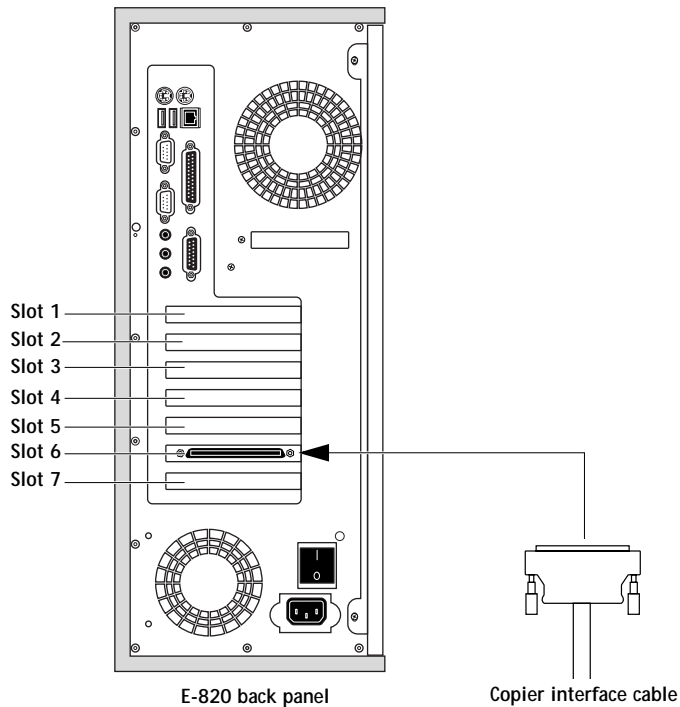

FIGURE 3-2 Copier interface connection
2. Connect one end of the copier interface cable to the interface connector on the copier and the other end of the cable to the E-820 copier interface connector (see Figure 3-2 below).